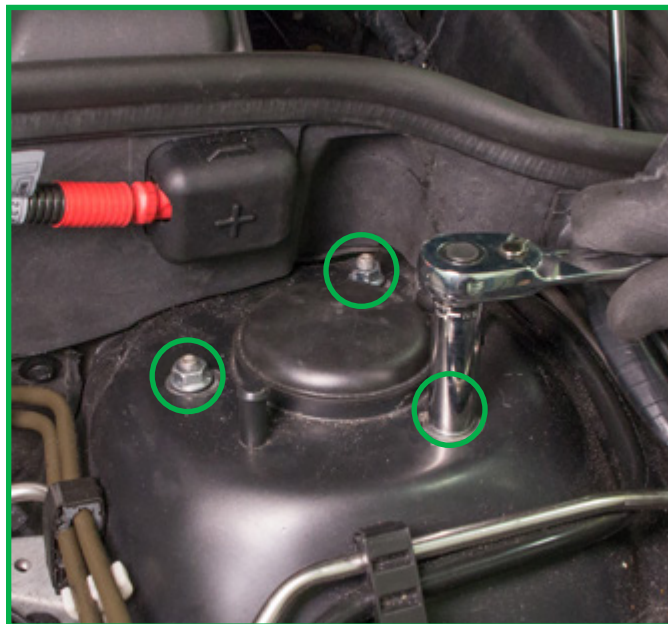

FIGURE 3
6. Open the hood and remove the three (3) upper mount nuts. (Figure 3)